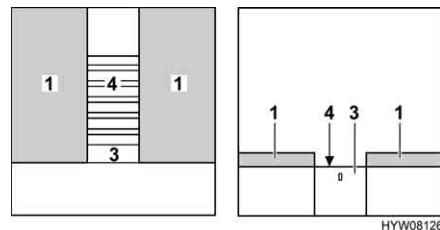

Fig. 114 During conversion
- If a locking mechanism is attached to the extension (Fig. 114,3): Reach behind the surround and unlock the extension.
- Pull out the slatted frame (Fig. 114,4) and/or the extension as far as it will go.